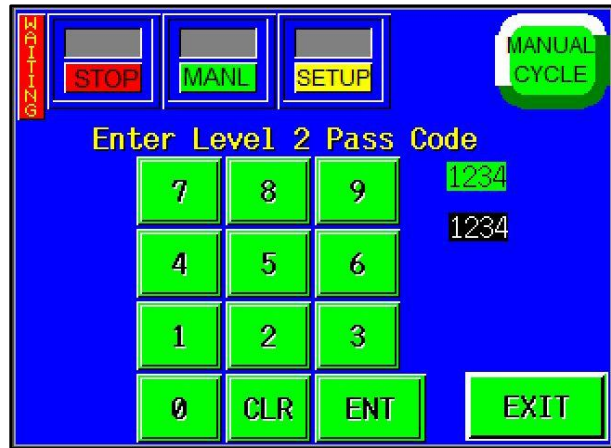

Figure 3-71
The Bagger Factory Settings screen contains additional bagger settings that should only be set by qualified technicians or by the factory. See Figure 3-71. This screen is accessed by pressing the **Bagger Factory** button on the Technical Assistance screen.
**TIZ:** Pressing the **TIZ** button displays the Ti-1000Z APPI Factory screen. The Ti-1000Z APPI Factory screen displays printer information, such as the type of printer (Next Bag Out or Offline), the type of driver (XiIII or Xi4), the type of drive (Main Drive or Driven Roll) and the printer resolution (200 DPI or 300 DPI). See Figure 3-71.